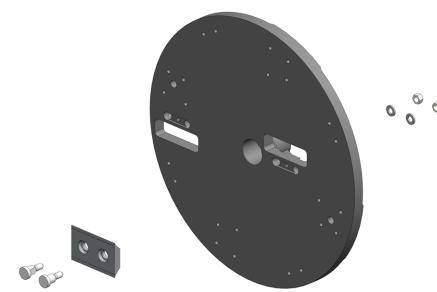

Figure 24 - Blade Mounting
14. Fit the blade to the rotor using the retaining bolts, washers and Nyloc nuts. The use of genuine Timberwolf blades and bolts is recommended (Figure 24).